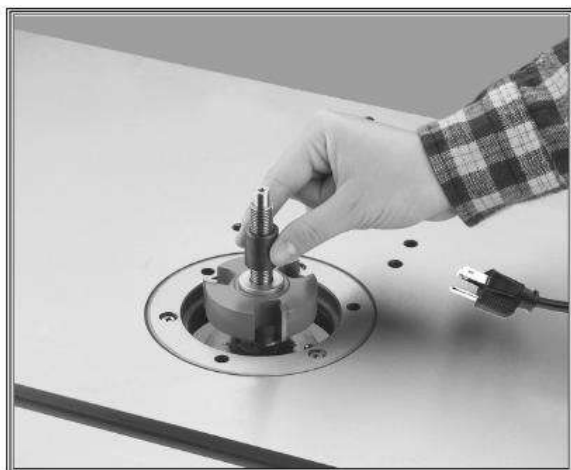

Figure21.
- 5.** Install spacers or collars if necessary for the specific application, followed by the nut and locknut as shown in **Figure 21**.